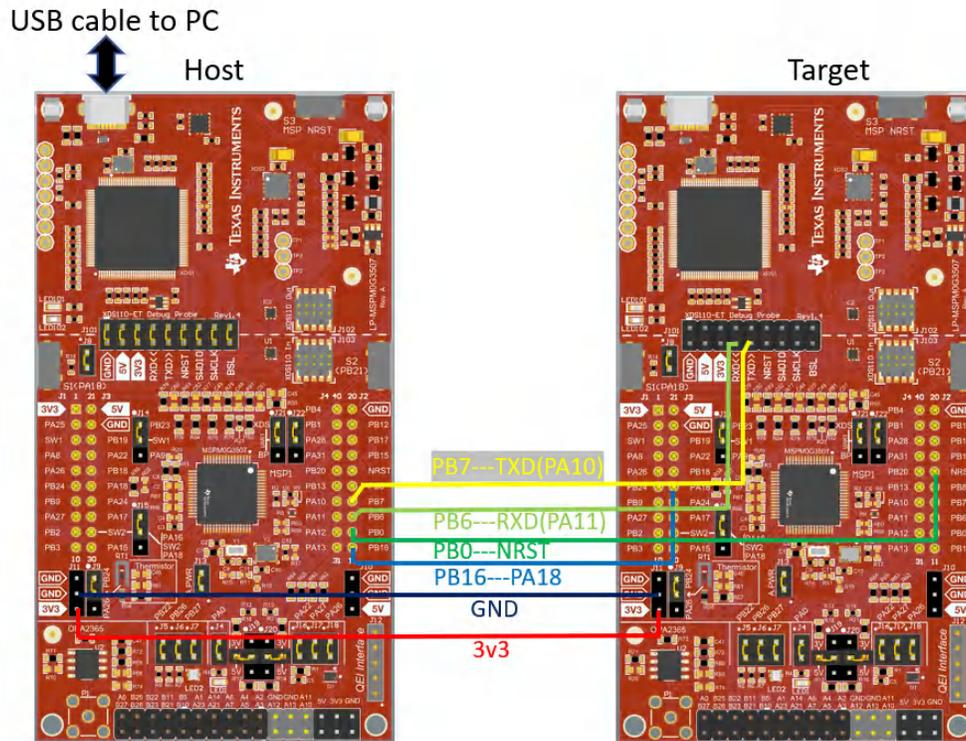

Figure 4-3. Hardware Signal Connections
1. Connect the hardware signals as shown in Figure 4-3. This example uses UART, so the I2C signals do not need to be connected.